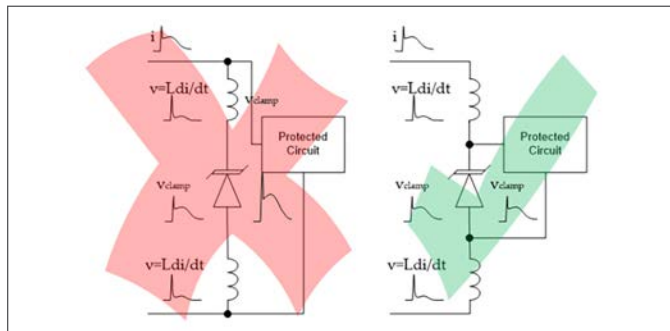

Figure 8: Minimizing parasitic inductance effects
2. Use Kelvin like connections to avoid adding spikes due to parasitic inductance (*Figure 8*).
The input ceramic decoupling capacitor resonates at approximately 30 MHz, as seen in *Figure 8* and results in the large 30 MHz EMI signature.
Figure 8. The larger 30 MHz emission is identified as a printed circuit board resonance using an H-field probe and confirmed by a 1-port reflection impedance measurement at the input capacitor.